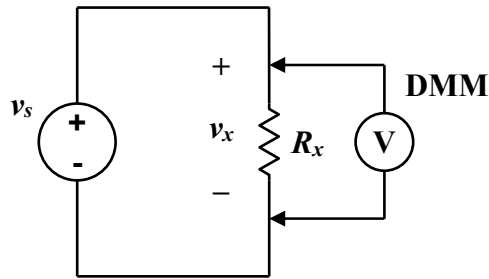

Figure 1.4b DMM as a voltmeter.
Set up the DMM in *voltmeter mode* and connect it *in parallel* with R_x (**Figure 1.4b**). Use a red lead from the positive (red) terminal of the DMM, and a black lead from the negative/COM (black) terminal.
5. Ask your instructor to ensure that you have set up the circuit correctly (**Figure 1.4b**) before going on to the next step. Ask your instructor initial **Table 1-2**.
10. **Turn off** the power supply. Reconfigure the circuit for voltage measurements (**Figure 1.4b**).